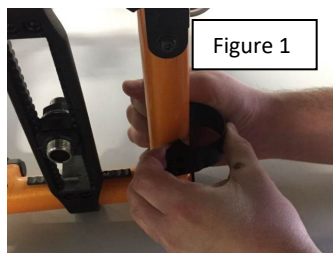

Figure 1
2. Install the clamp (#51119) onto the rear left frame of the wheelchair. (Figure 1)